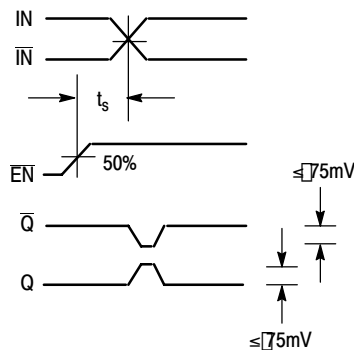

Figure 3. Setup Time
17. The setup time is the minimum time that $\overline{EN}$ must be asserted prior to the next transition of IN/ $\overline{IN}$ to prevent an output response greater than $\pm 75\text{ mV}$ to that IN/ $\overline{IN}$ transition (Figure 3).